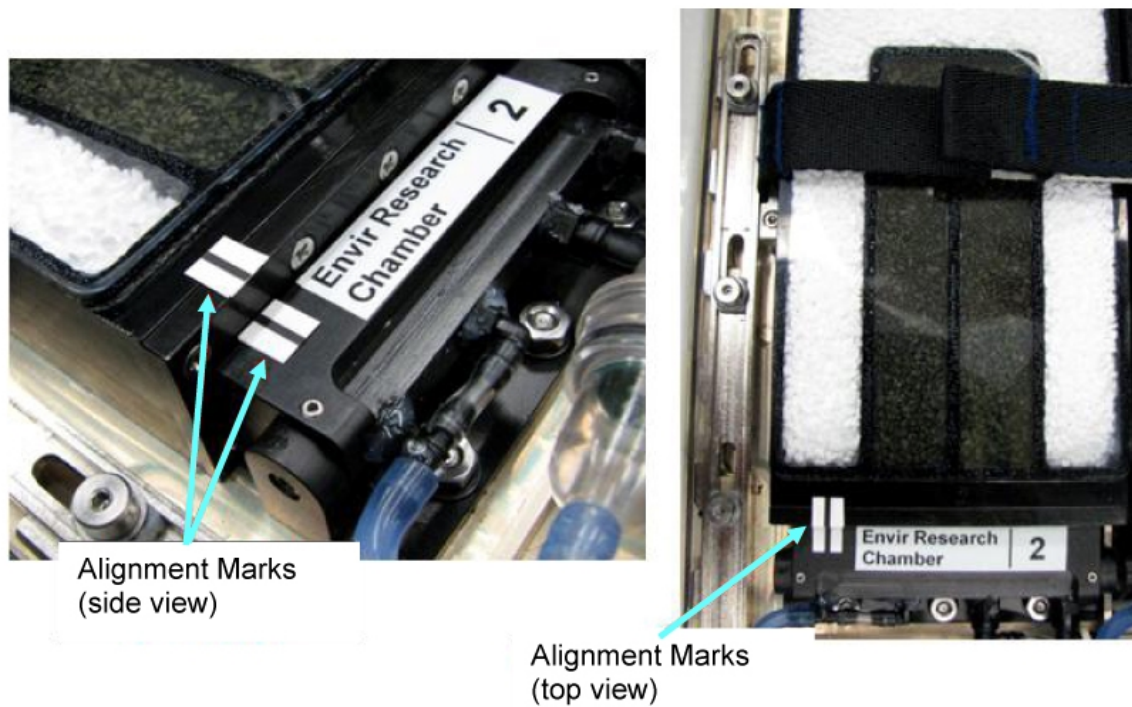

Figure 5. Two Views of ABRS Air Filter Cartridge Alignment Marks.
- 2.6 Insert ABRS Air Filter Cartridge by lifting manifold upward (see Figure 3) and inserting new Cartridge with transparent filtration module cover facing up, ensuring alignment marks match per Figure 5. Rotate Cartridge downward into place.